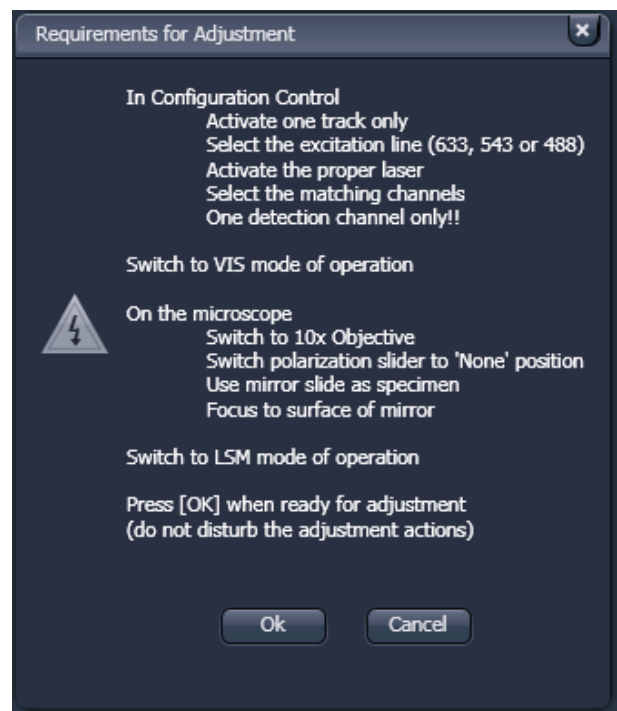

Fig. 5-118 Requirements for Adjustment window
- Meet the requirements listed in the **Requirements for Adjustment** window (Fig. 5-118). Press **Cancel** to abort the automatic pinhole adjustment. Press the **OK** button to proceed.